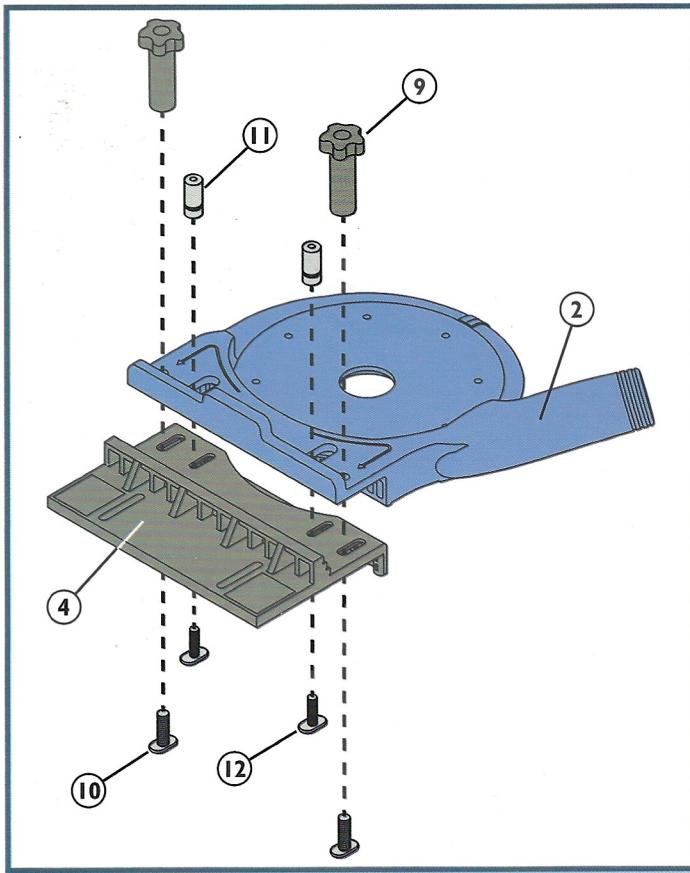

Fig. 2
- Chuck the desired router bit in the router, following the procedures outlined in the owner's manual that came with your router, and adjust the router so that the bit does not extend below the Router Plate (1). It is best to choose a bit whose diameter will allow you to cut the dado width in two overlapping passes. (For example, if cutting a dado to fit a shelf made from nominal 3/4" plywood, you would use a 1/2" diameter straight bit.)
5. If they are not already attached, connect the Perfect Fit Fence (4) to the Jig Base (2) with the 5/16"-18 x 1" T-Bolts (10) and the 5/16"-18 x 1" Tall Five-Star Knobs (9) in the outer two holes (marked "Lock Down Knobs"). Also install the 1/4"-20 x 1" T-Bolts (12) and 1/4"-20 Knurled Knobs (11) in the slots in the Jig Base marked "Dado Thickness Stops." **Fig. 2.**